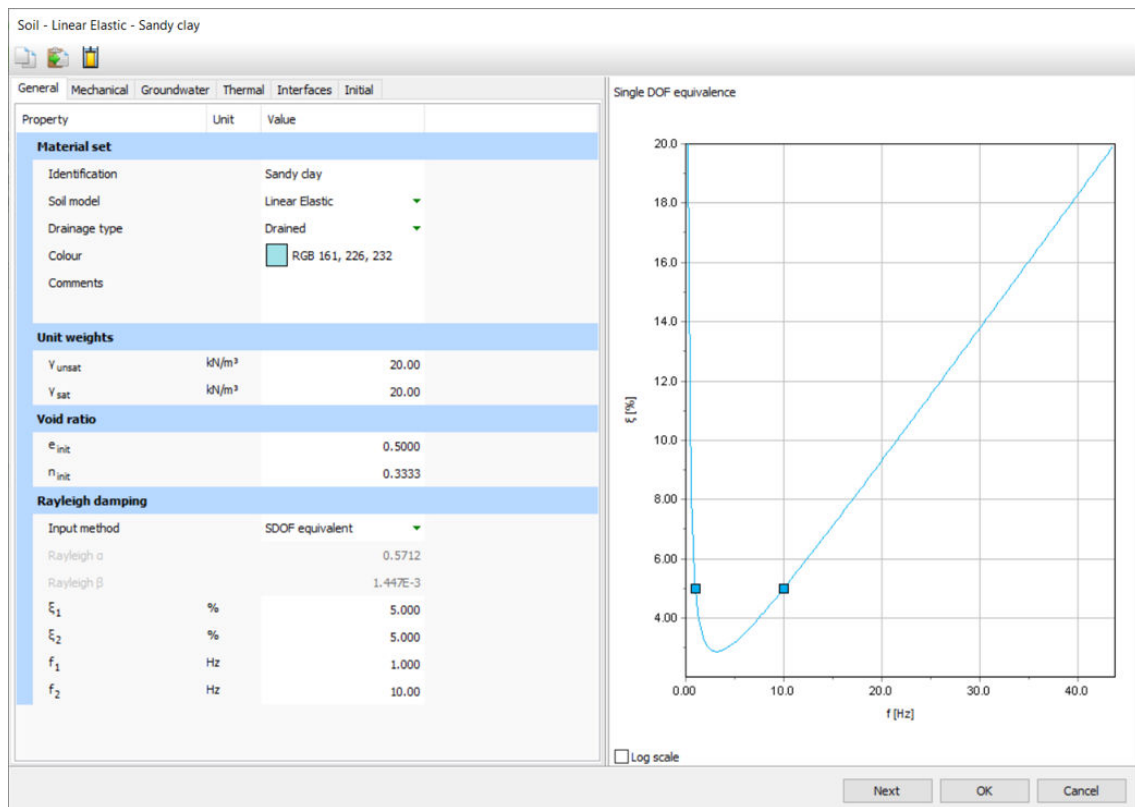

Figure 197: Input of Rayleigh damping
5. The values of α and β are automatically calculated by the program as shown in Figure 197 (on page 223)..